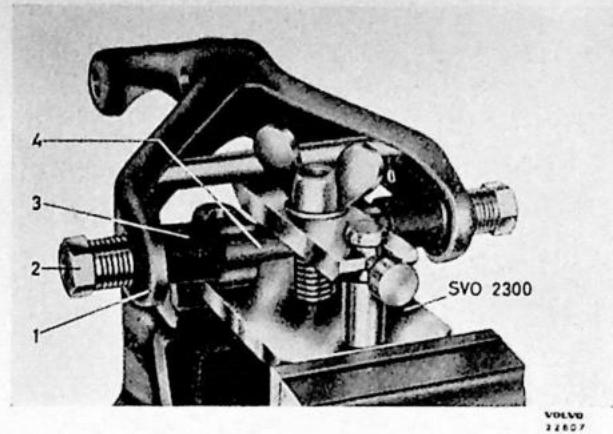

Fig. 15. Fitting upper control arm shaft.
3. Place the control arm in the tool so that the pin on the cap fits into the U profile on the control arm and the holes in the shaft shoulders fit on both the guide pins. Move the cap towards the control arm, slightly tighten the wing nut, screw in the stop screw and tighten up the wing nut. See fig. 15.